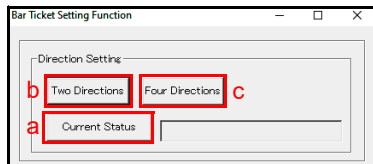

Figure 4 Bar Ticket Setting Function Screen
5. Click the Current Status button (Figure 4 a) to view the Bar Ticket Setting current status.
6. To change the Direction Setting, click on the Two Directions or Four Directions buttons (Figure 4 b/c).